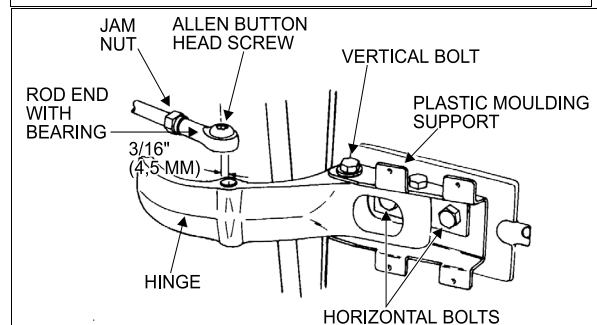

FIGURE 18: UPPER DOOR HINGE (COACH)
- Remove the Allen button head screw and the washer retaining the rod end with bearing to the upper hinge. See Figure 18.